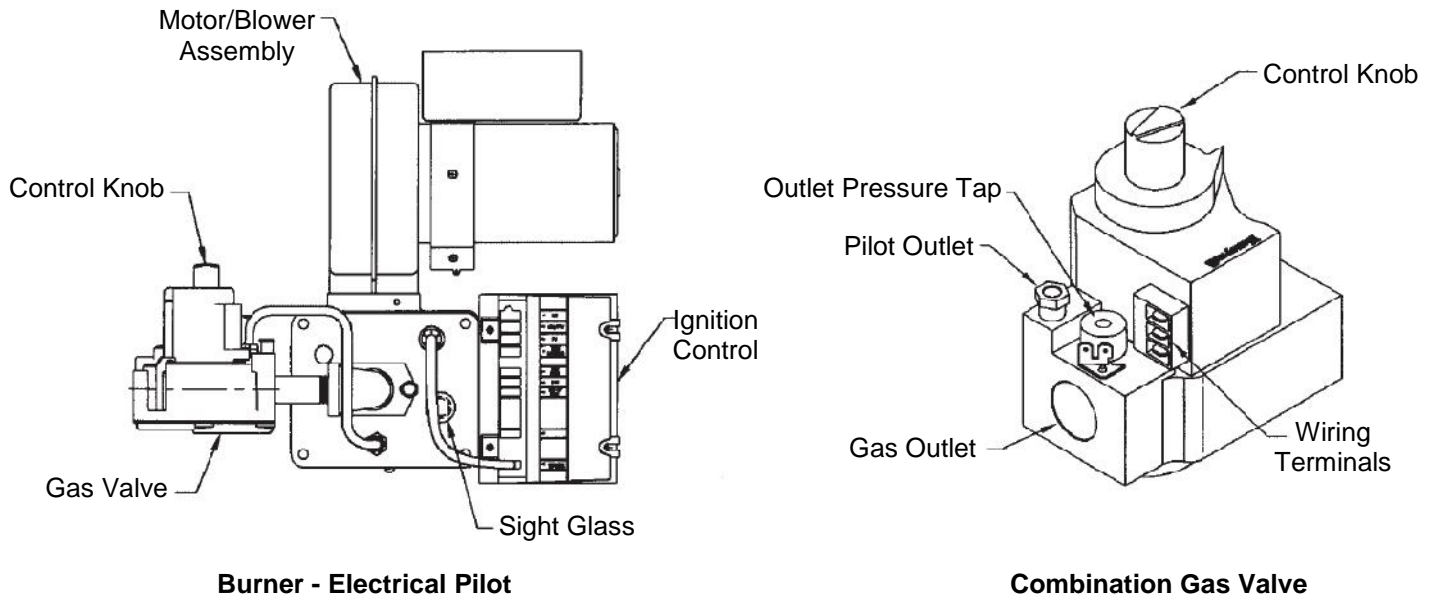

FIGURE 14
1. Depress the gas valve control knob on the combination gas valve and turn to "OFF" (See Figure 14).